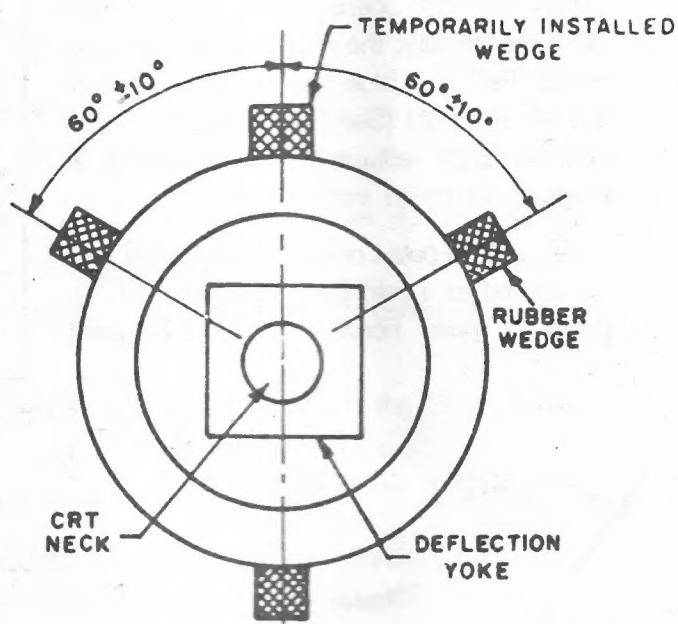

Fig. 8
- 4) The position of each rubber wedge is shown in fig.8